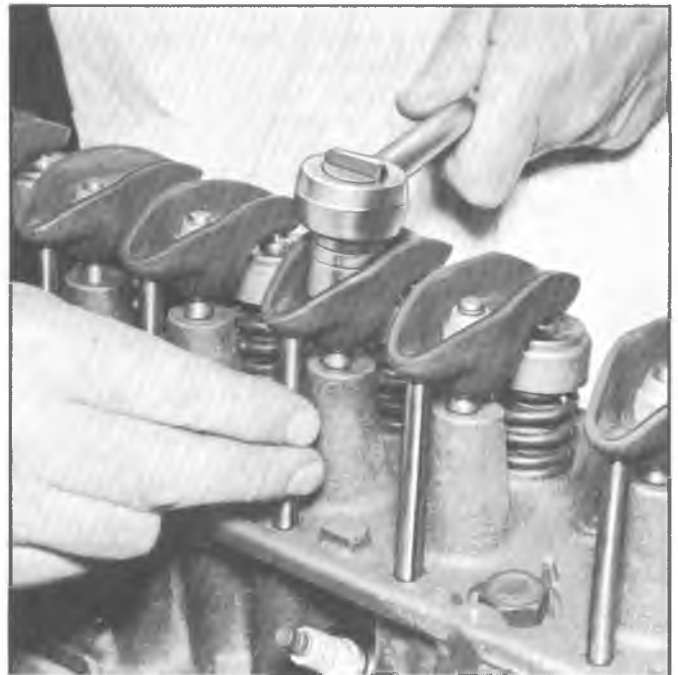

Fig. 2L—Valve Adjustment
- c. Back out adjusting nut until lash is felt at the push rod then turn in adjusting nut until all lash is removed. This can be determined by checking push rod side play while turning adjusting nut (fig. 2L). When play has been removed, turn adjusting nut in one full additional turn (to center lifter plunger).